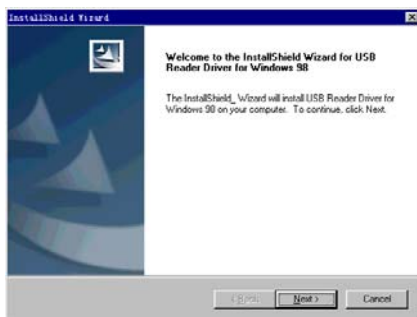

Fig 3-61
4. When the preparation is complete, the screen will prompt to continue the operation. See Fig 3-61 Click "Next" to start installation.